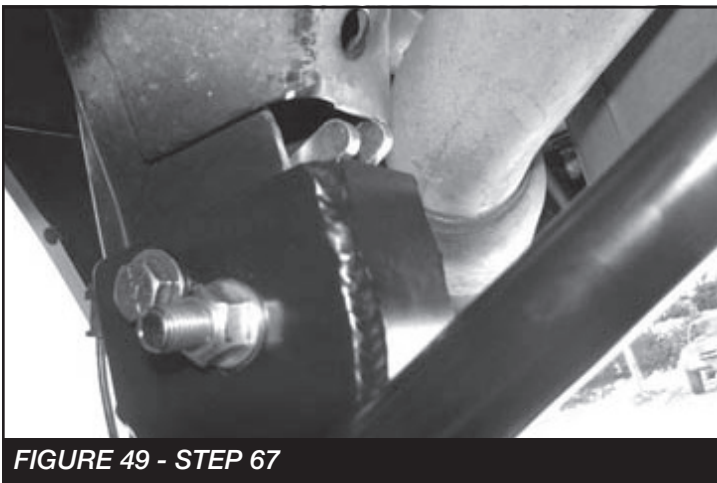

FIGURE 49 - STEP 67
67. Insert the track bar into the Fabtech track bar bracket and install the factory hardware. Torque the factory bolt 160 ft-lbs. **SEE FIGURE 49**